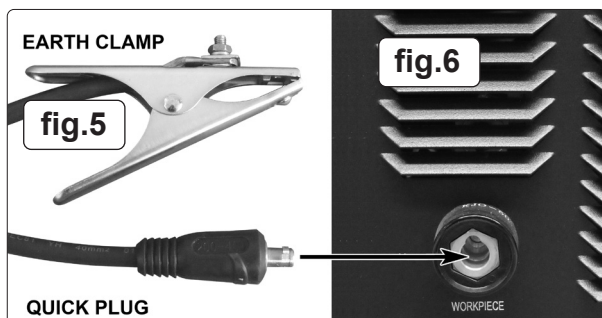

fig.6
5.4 CONNECTING THE WELDING CURRENT RETURN CABLE (fig.6).